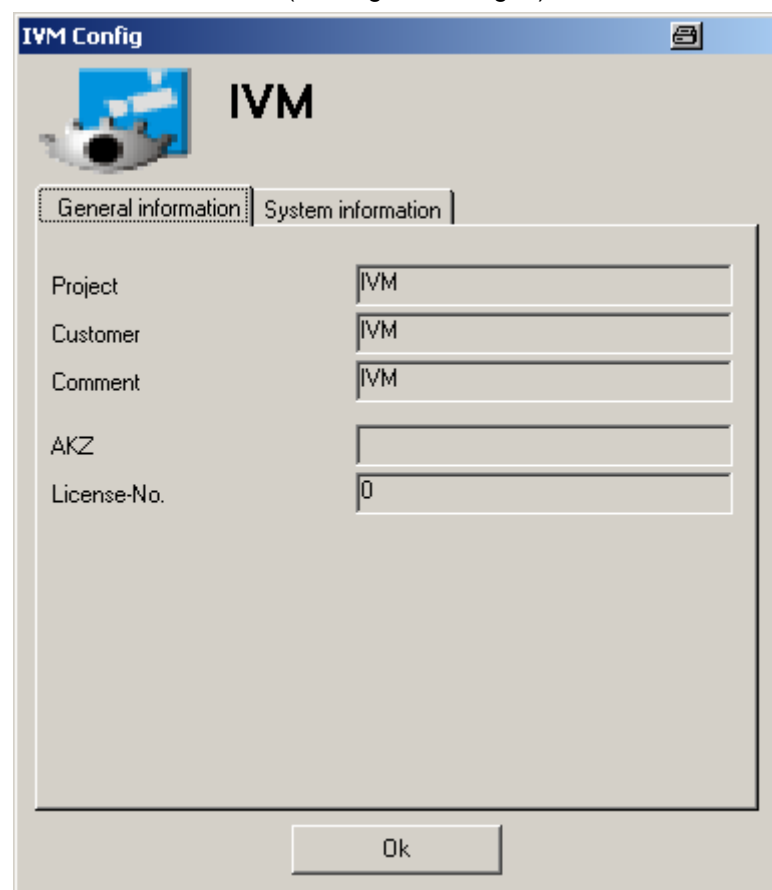
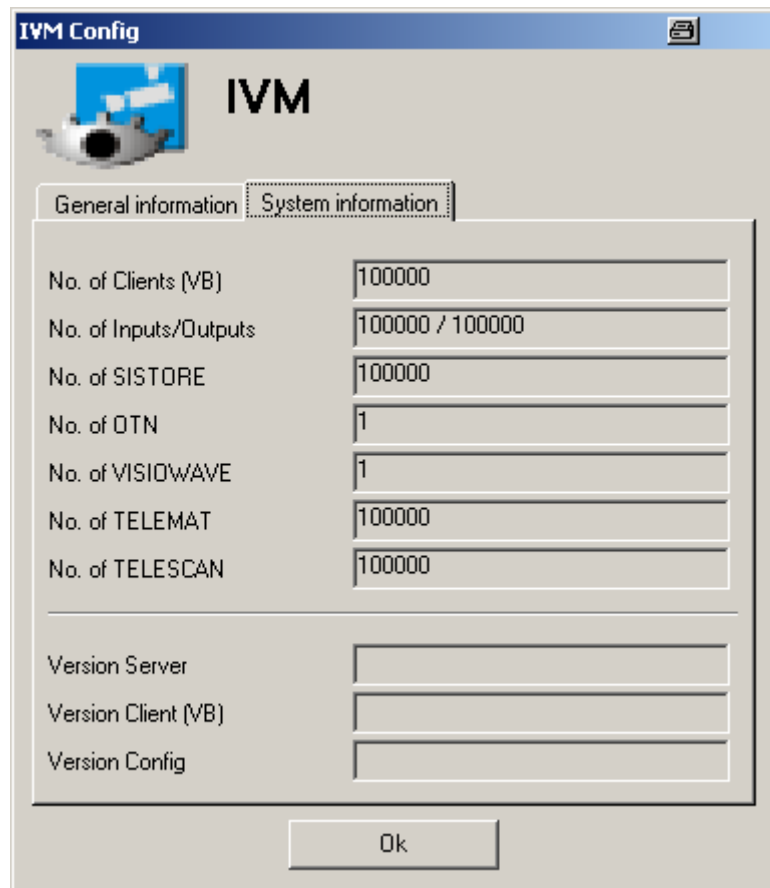

Fig. 2 General information
Fig. 3 System information
- The information will be displayed under the **General information** and **System information** tabs (see Fig. 2 and Fig. 3).